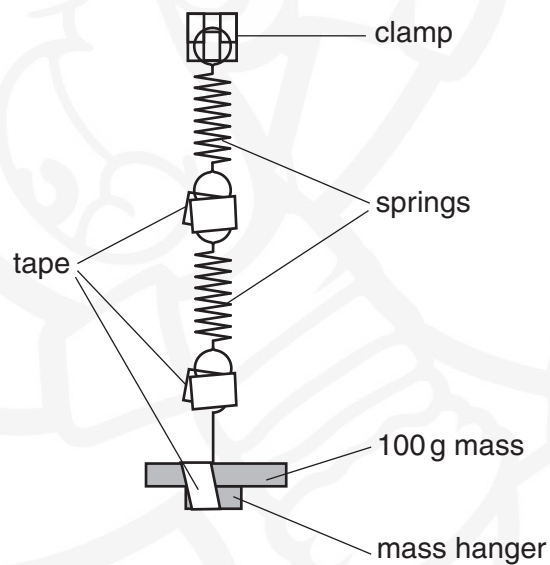

Fig. 2.2
- (c) (i) Use **small** pieces of adhesive tape to reduce movement at the joints between components, as shown in Fig. 2.2.